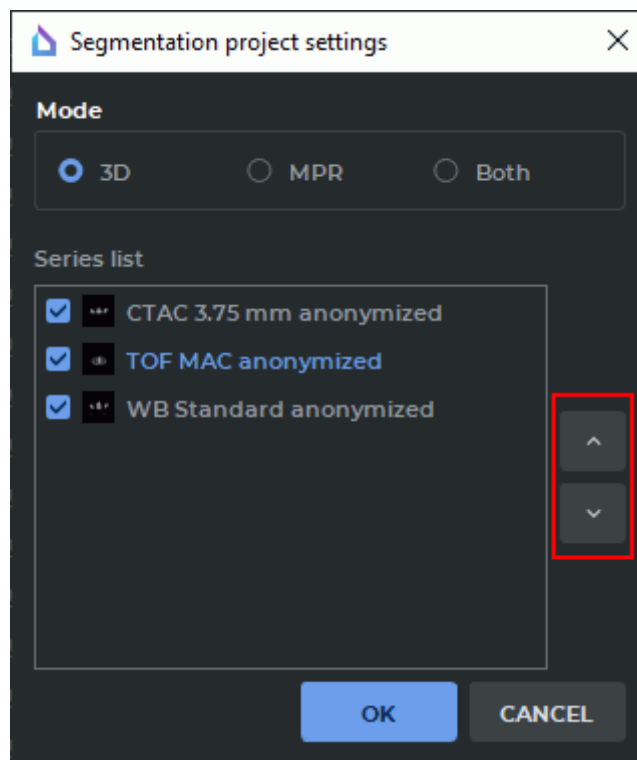

Figure 6.39: Dialog box for selecting the project opening parameters
1. On the main menu, select **File->Open project as...**. A window will pop up, in which you will have to choose the file containing the project for this series. Click **Open** to open the project or **Cancel** to cancel the action. The dialog box shown in Fig. 6.39 will pop up.
4. The order in which the series are displayed is important for working with the project. By default, the series are displayed in the **Series list** in the same order as when the segmentation project was saved. To change the series order, highlight a series in the **Series list** box. Use **^ Move up** and **v Move down** buttons (indicated by the red frame in Fig. 6.39) to move the selected series up or down.